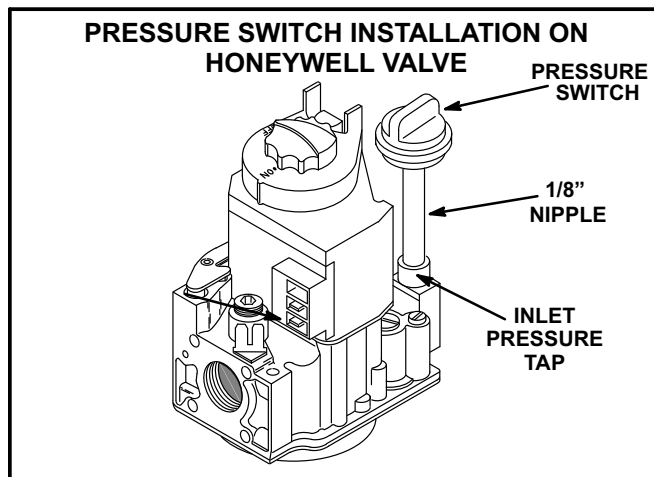

FIGURE 6
- Remove cap screw from inlet pressure tap on gas valve. Apply pipe thread compound to threads of the 1/8" BIP nipple and screw the pressure switch/BIP nipple assembly into the inlet pressure tap on the gas valve. See figures 2 or 3 for gas valve inlet pressure tap location. Figures 6 and 7 show installed pressure switches.